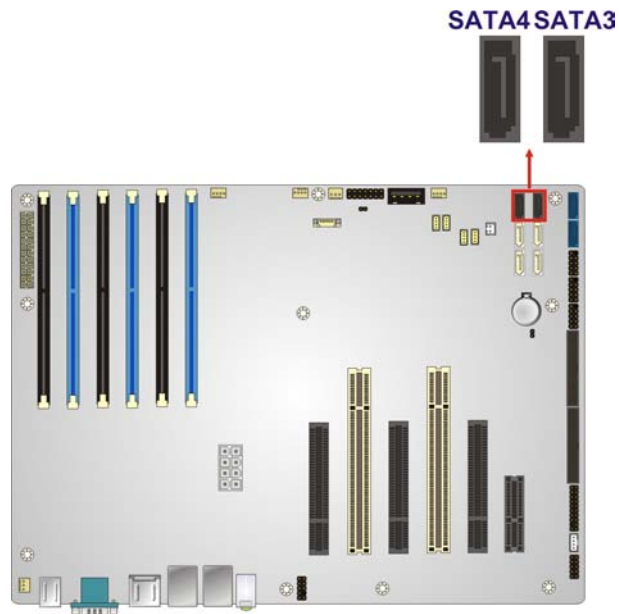

Figure 3-19: SATA 3Gb/s Drive Connector Location
- CN Location: See **Figure 3-19**